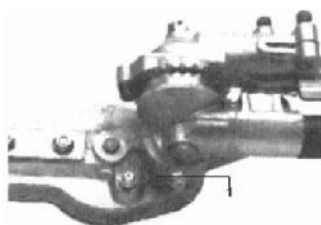

Fig.H116
- c. Slide the gearcase out of the tube. Using a grease gun, pump lithium-base grease (about 10 grams) into the grease fitting on the gearcase until you see old grease being purged from the gearcase (Fig.H116). Purged grease will be visible in the outer tube cavity. Clean up the excess grease and then reassemble the gear case onto the outer tube.